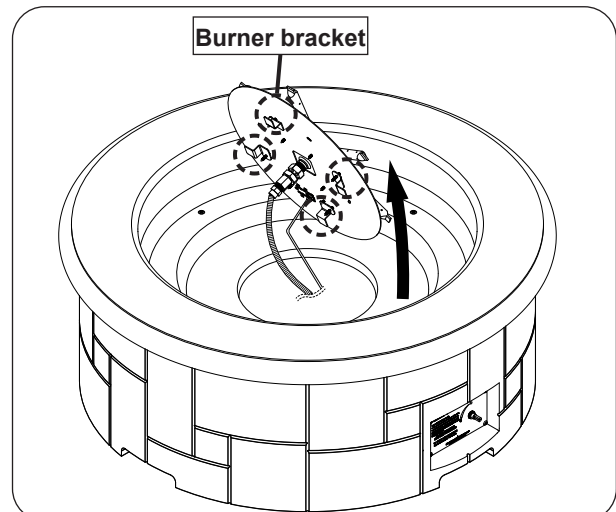

Fig. 28-3 Remove burner and valve assembly
3. Use a $\frac{5}{16}$ " nut driver to partially unfasten the four screws found on the burner assembly. Then carefully remove the burner and valve assembly and set it off to the side. See Fig. 28-3.